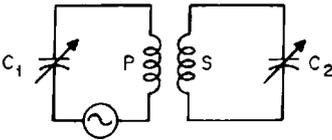

Fig. 35-21. One method of coupling one tuned circuit to another.
**Coupled Circuits.** In radio work, one tuned circuit is often coupled to another, as in Figure 35-21. The overall frequency characteristic—that is, the relationship between frequency and current flowing in the secondary for a given voltage across the primary—can be shown by a graph like that in Figure 35-11. If each circuit is independently tuned to the same frequency and then